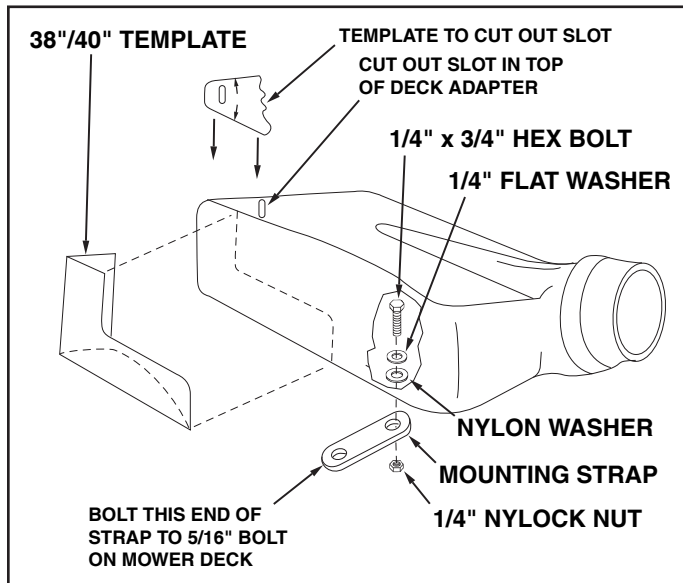

**FIGURE 28**
7. With deck adapter positioned correctly over the discharge opening, use the adapter bracket as a template and drill three 9/32" diameter holes in the top of the deck adapter. See figure 28.
8. Bolt deck adapter to bracket using three 1/4" x 3/4" bolts, nylon washers, 1/4" flat washers and 1/4" lock nuts. Nylon washers should be against the inside of the deck adapter. See figure 28.